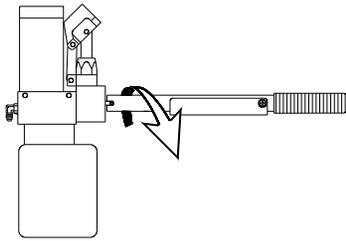

FIGURE 2-14 COUNTER-CLOCKWISE LOWERS PLATFORM
- 2) Refer to **Figure 2-14**. Engage pump release valve with handle. Slowly rotate valve counter-clockwise (1/4-turn max) until platform begins to lower; do not open further. Allow platform to settle on the ground, and then rotate valve clockwise to close.